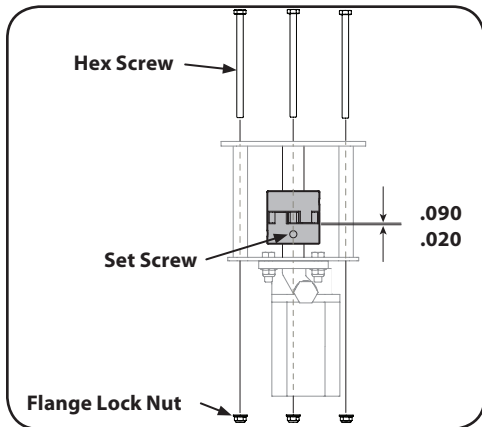

Figure 4-5
2. Remove the three flange lock nuts and hex screws that secure the pump to the coupling shield. Two flange lock nuts and hex screws are at the bottom corners and one is in the top center. See Figure 4-5
11. Set .020" to .090" of a clearance/gap between the nylon "spider" and the engine coupling half by sliding a feeler gauge between the nylon "spider" and the engine coupling half and moving the pump coupling half as needed. Install the set screw and torque to 78 in-lbs to secure the pump coupling half. See Figure 4-5.